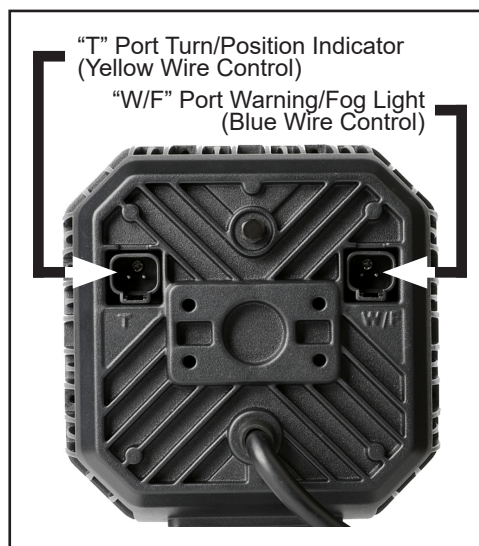

Fig.8
7. Align the Warning Light (C) to the desired side of the Headlight (A) and secure the Warning Light (C) to the headlight housing by tightening the two capscrews.
8. Plug the cable from the Fog Light (D) into the port on the Headlight (A) housing marked “W/F” (Fig. 8). Note that the blue wire from the 6 conductor cable controls the port labeled “W/F”.
9. Plug the cable from the Warning Light (C) into the port on the Headlight (A) housing marked “T” (Fig. 8). Note that the yellow wire from the 6 conductor cable controls the port labeled “T”.